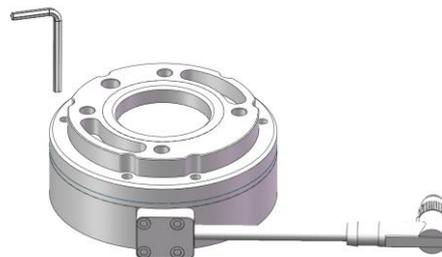

Figure 2-28 Loosen Embedded Screws Using a 3mm Allen Key
- b. Separate the sensor from the mounting flange. When the sensor leaves the factory, the mounting flange and the sensor are connected by six embedded hexagon socket screws. Use a 3 mm Allen key to loosen them, so as to separate the mounting flange from the sensor, as shown in Figure 2-28.